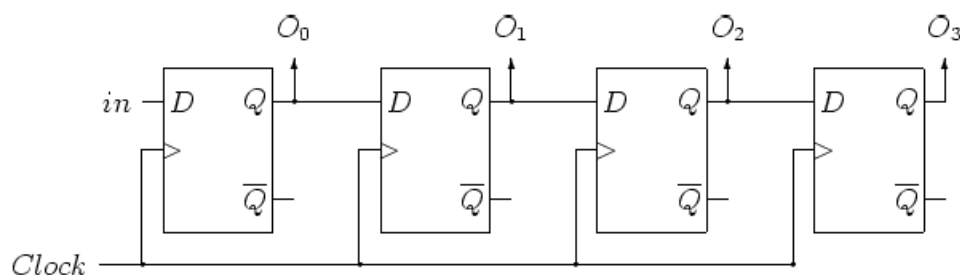

Figure 3 – 4-bit serial-in parallel-out Shift Register, implemented using D flip-flops.
- ✓ as a series-in to parallel-out converter (see **Figure 3**).